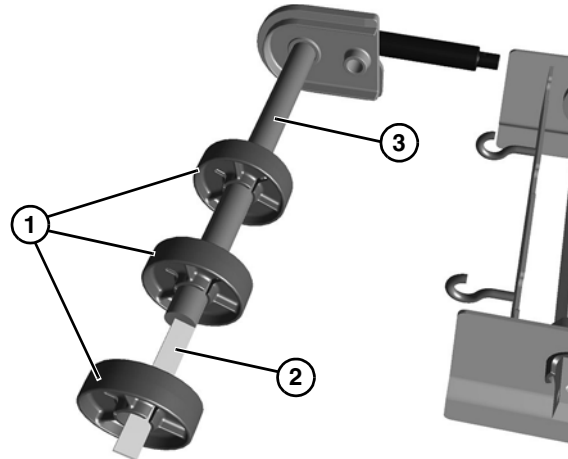

Figure 59
6. Slide the pucks (Figure 59, item 1) and alignment bar (Figure 59, item 2) off the idler shaft (Figure 59, item 3).